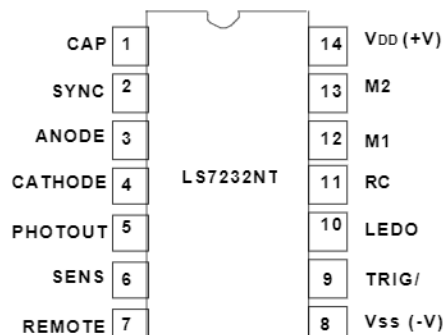

FIGURE 1
- LS7232NT (DIP); LS7232NT-S (SOIC) - See Figure 1